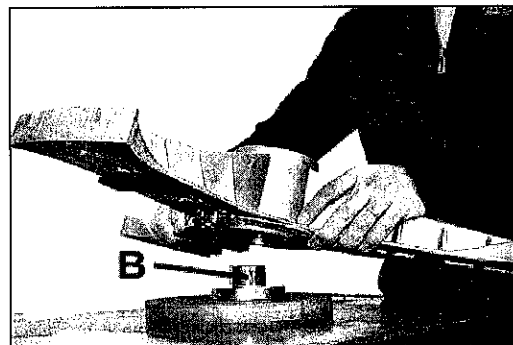

fig.13
- Turn the bearings' box around and position it over the **B** centring tool used in the previous step to mount the bearing. (fig. 13).